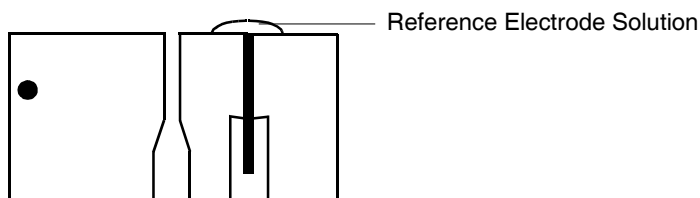

Figure 4-5 Coating the ISAAC Reference Electrode
5. Immediately after polishing, apply a few drops of the ISAAC reference electrode solution on the inner electrode surface to coat the electrode (Figure 4-5). After a few seconds, the electrode surface color changes.